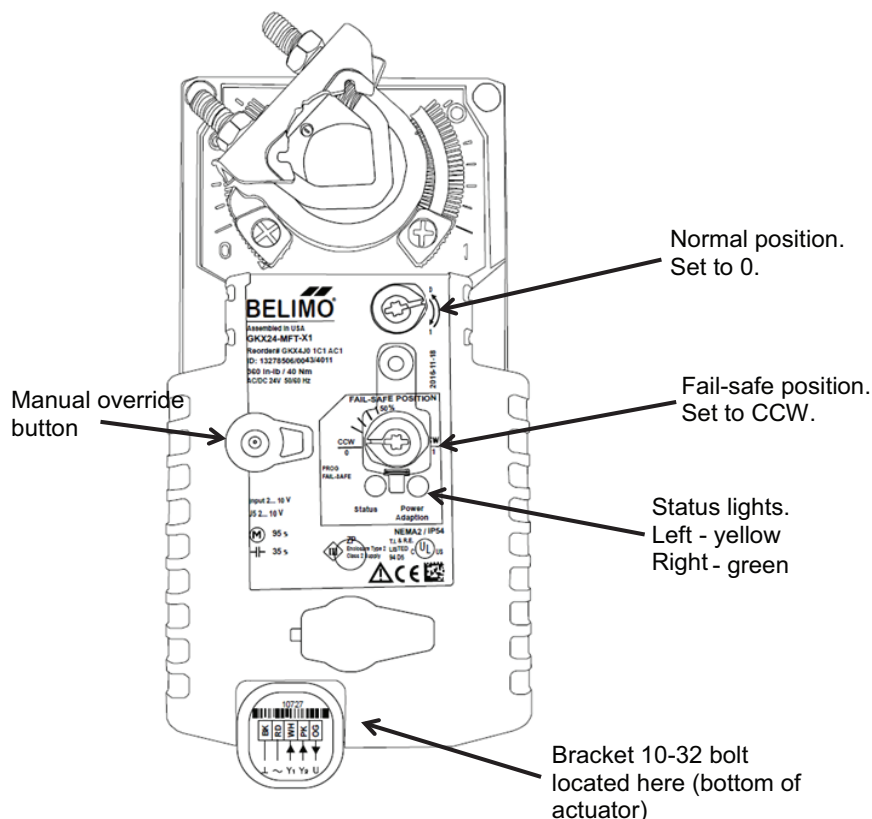

Fig. 31 — Actuator Settings, 30MP050-071 Head Pressure Control and Evaporator Isolation
30MP050-071 HEAD PRESSURE CONTROL AND EVAPORATOR ISOLATION — All actuators are 5-wire, 2-10VDC control, reverse acting, electronic fail-safe. The actuator is pre-programmed for the unit and should not require field programming. The red and black wires are used to power the actuator. The signal connection is made at the actuator white wire. The orange and pink wires are not used. The default settings on the actuator are normally open and fail open. The normal position dial should be set to 0 (Fig. 31), which will ensure the actuator will move to the full counterclockwise position. The fail-safe position dial should be set to counterclockwise. The actuator should be in the fully counterclockwise position prior to installation. If necessary, press and hold the manual override button while turning the actuator to the full counterclockwise position prior to installing the actuator on the water valve.
30MP050-071 — For isolation during heat exchanger service, turn the fail-safe position dial fully clockwise (CW, see Fig. 31) and remove power to the actuator. This will hold the water valve in the fully closed position. Do not return power to the actuator until service is complete. Each actuator includes a manual override button. Pressing this button will release the actuator drive gear. With the manual override button held down, the water valve shaft can be rotated manually. Upon releasing the manual override button, the actuator will return to the fail-safe position. The manual override is not recommended for heat exchanger isolation, as the manual override does not lock in the actuator in position.
*See Fig. 31 for location of indicator lights.